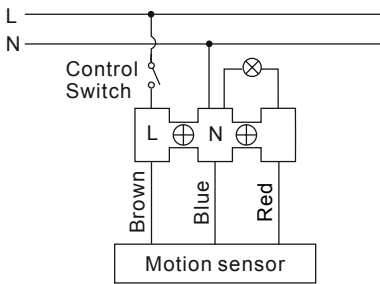
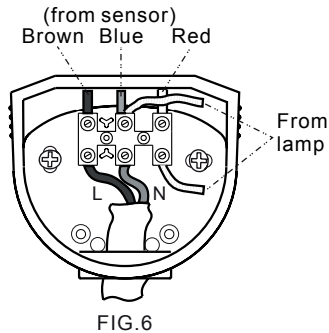
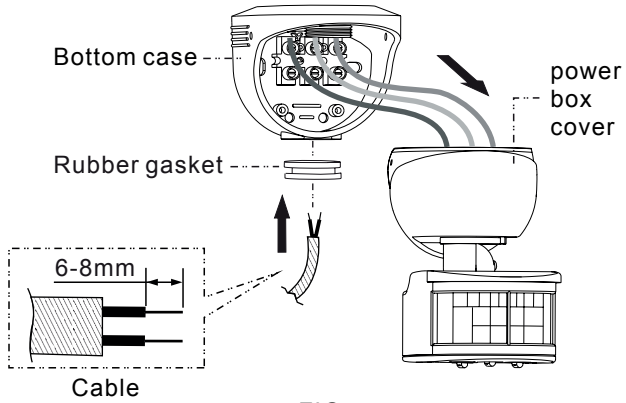

FIG.5
FIG.6
FIG. 7
1. Detach the sensor part from the bottom case, then fix the bottom case on the wall or on the ceiling with the screws (See FIG.7 & FIG.8).
2. Feed the cables through rubber gasket and refer to wiring diagram to connect the cables, please be noted to strip off 6 - 8mm of cable sheathing by tool (See FIG.5 & FIG.6 & FIG.7).